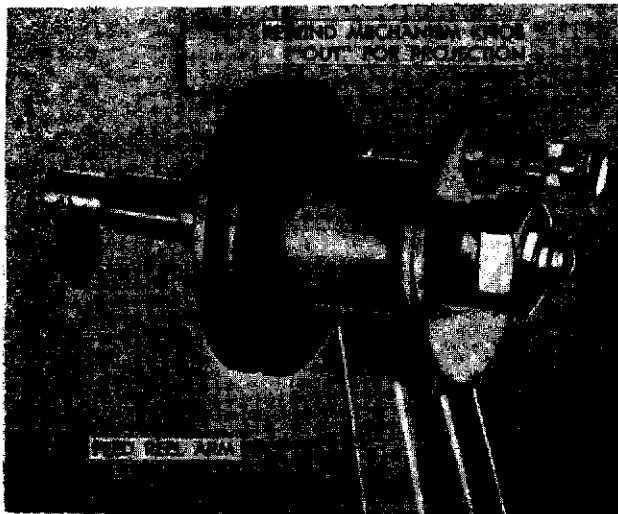

Figure 1-14. Feed Reel Arm Rewind Knob
and engaged in the short slot as shown in figure 1-14. This knob must be set in the IN position (engaged in the long slot) only when rewinding the film.
c. Set the rewind mechanism knob on the front reel arm (figure 1-14) to the "IN" or closed position. Turn the REWIND switch on the projector switch panel to the ON position. This will start the motor.